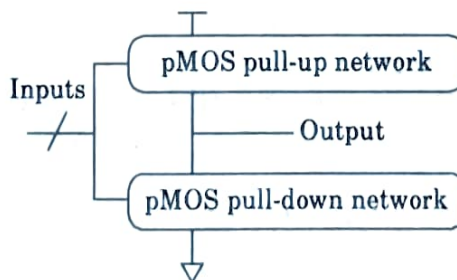

Fig. 1.15.1. General logic gate using pull-up and pull-down network.
2. In general, a fully complementary CMOS gate has an nMOS pull-down network to connect the output to '0' (GND) and pMOS pull-up network to connect the output to '1' (V_{DD}) as shown in Fig. 1.15.1. The networks are arranged such that one is ON and the other OFF for any input pattern.